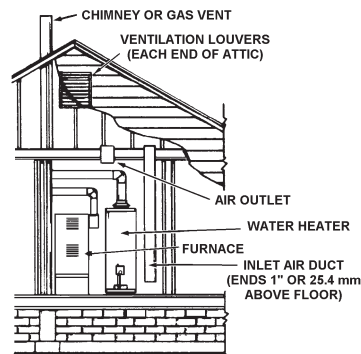

FIGURE 8.
- When communicating with the outdoors through vertical ducts, each opening shall have a minimum free area of 1 square inch per 4,000 Btu per hour (5.5 cm²/kW) of total input rating of all equipment in the enclosure, see Figure 8.